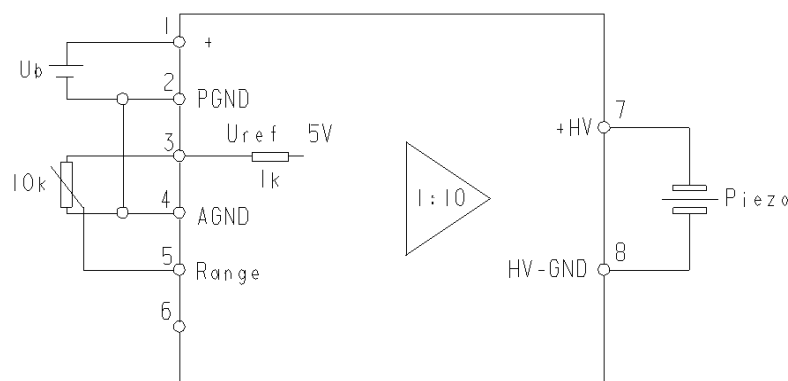

Fig. 2: E-660.OE Operation using external potentiometer
- 1 Manual operation via potentiometer. The necessary reference voltage is provided by the module. For sample application circuitry, see Fig. 2. The offset input is effectively doubled before being used to bias the control input.